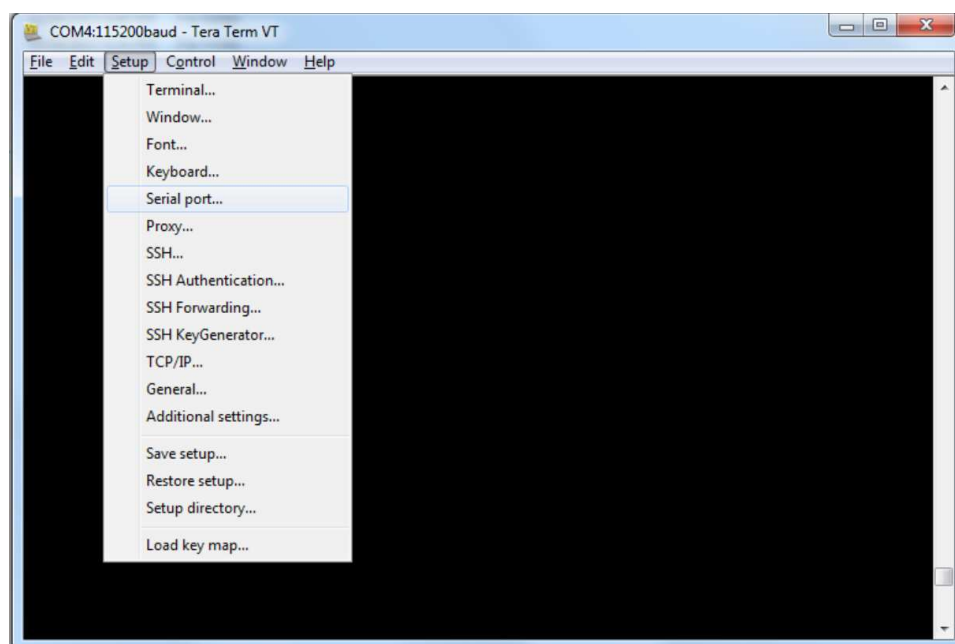

Figure 2-5. Set Up Serial Port
4. Go to Setup → Serial port, as shown in Figure 2-5.